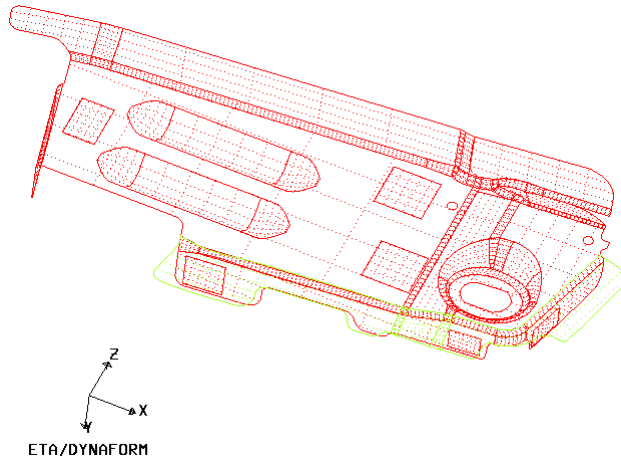

Figure 6.1.10 Unfolded Flange
- Select **OK** to accept the defined bent angle. The unfolded surfaces are shown in Figure 6.1.10 in yellow.